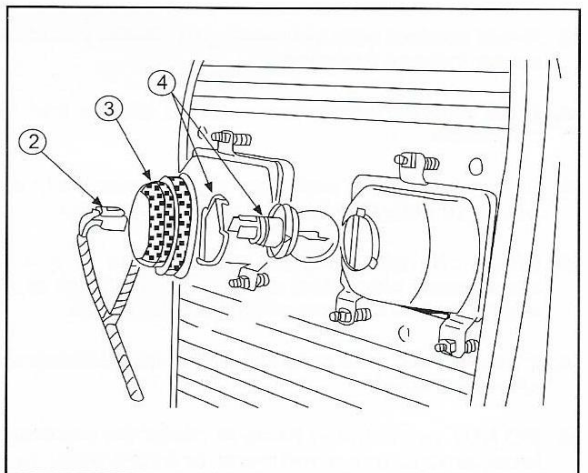

Fig. 119
3. Remove the headlight wiring plug (2, Fig. 119).
4. Remove the rubber surround (3).
5. Release the spring clip and remove the failed bulb (4).